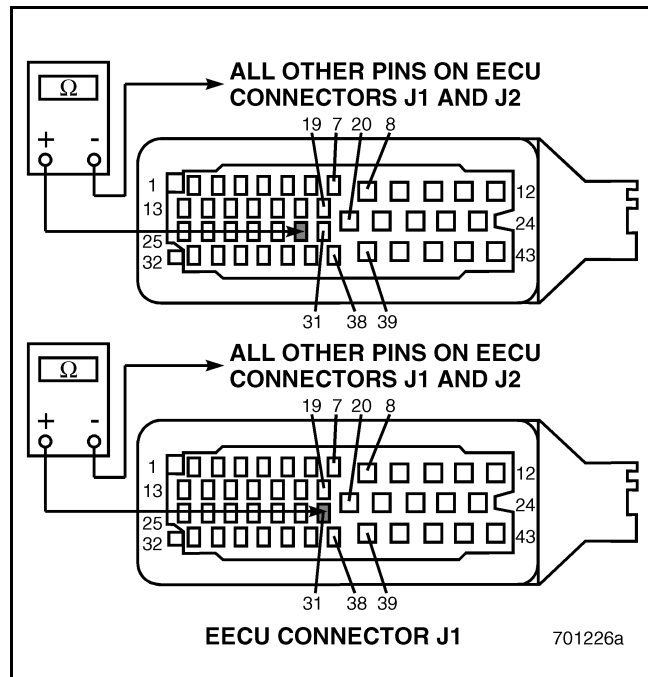

Figure 360
4. Check for continuity between the circuit (connector J1 pin 30 or 31) that showed continuity in test 32 and all other pins on EECU connectors J1 and J2 (see Figure 360).